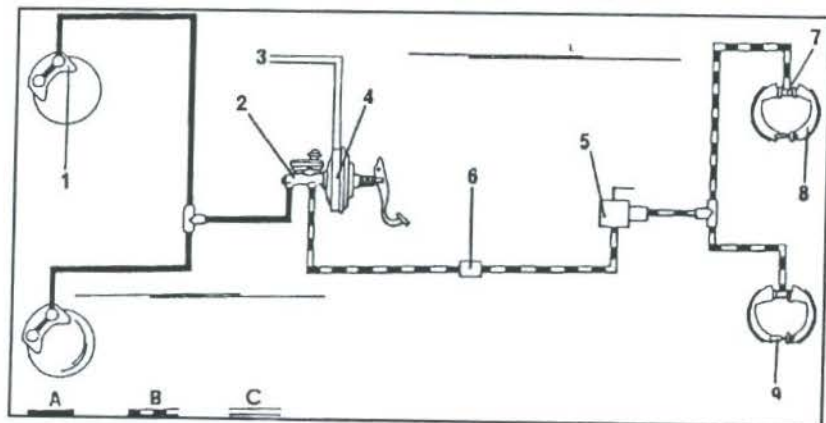
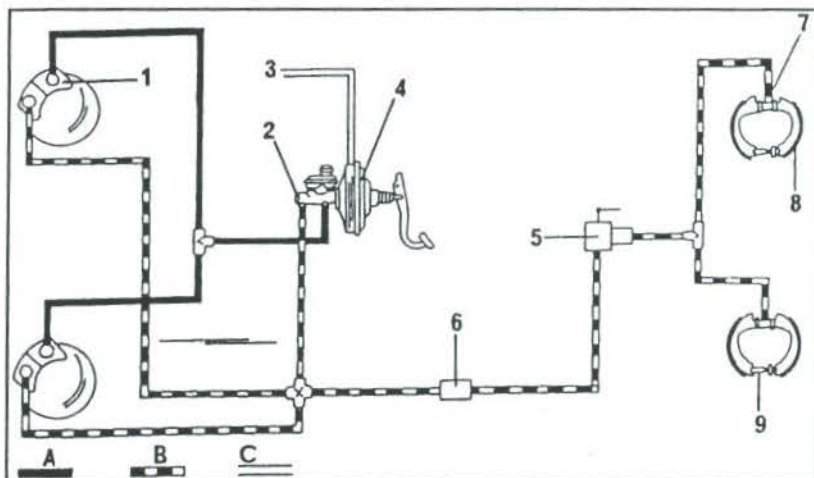

Fig. 7.1 – Brake circuit for delivery vans and pick-ups.
Fig. 7.2 – Brake circuit for models with passenger transport.
All models covered in this manual are fitted with a hydraulic dual-circuit brake with vacuum-operated brake servo unit. Fixed brake calipers with 4 pistons are used for the front wheels, with drum brakes at the rear wheels. There are, however, differences in the layout of the brake system. If the system is fitted to vans and pick-ups, the brake system is laid-out as shown in Fig. 7.1. If the vehicle is used for the transport of persons, the brake circuit is arranged as shown in Fig. 7.2. As the circuit shown in Fig. 7.2 can also be fitted to other models, we will give you the major differences:
- In the circuit arrangement shown in Fig. 7.1, the intermediate piston circuit acts on the front wheels, the push rod circuit on the rear wheels. The four cylinders of each front caliper are interconnected. If the front brakes fail, the rear brakes will operate as normal, but more brake force will be required. The same applies when the rear brakes fail, i.e. the front wheels will work in the normal manner.
- In the circuit arrangement shown in Fig. 7.2, each push rod circuit acts on two cylinders of the front wheel calipers. The intermediate piston circuit acts on the two remaining cylinders of the front calipers and on the rear wheel cylinders.